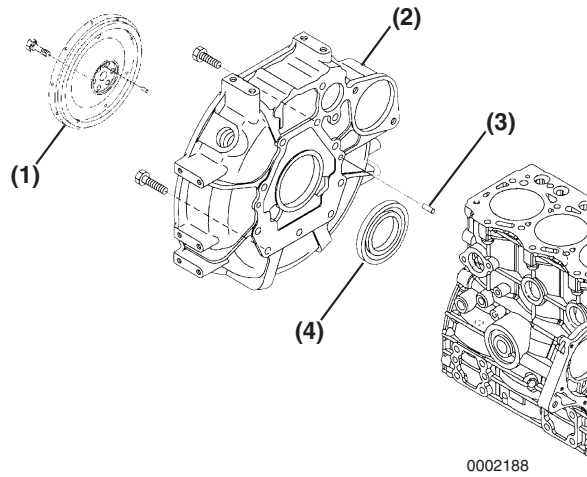

Figure 6-54
1. Remove the flywheel (**Figure 6-54, (1)**) from the crankshaft.
2. Remove the bolts (**Figure 6-54, (2)**) from the flywheel housing assembly. Remove the flywheel housing from the engine.